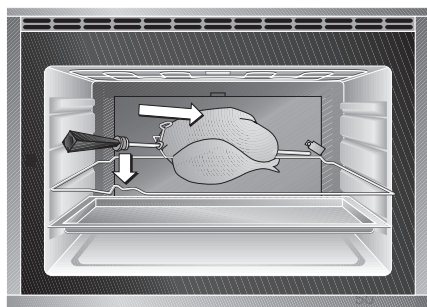

Fig. 37
- Fit the rotary spit in the rotary spit drive. (Fig. 37) Unscrew the handle from the rotary spit and close the oven door.